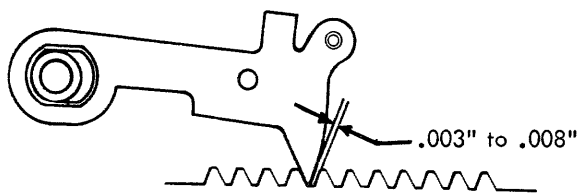
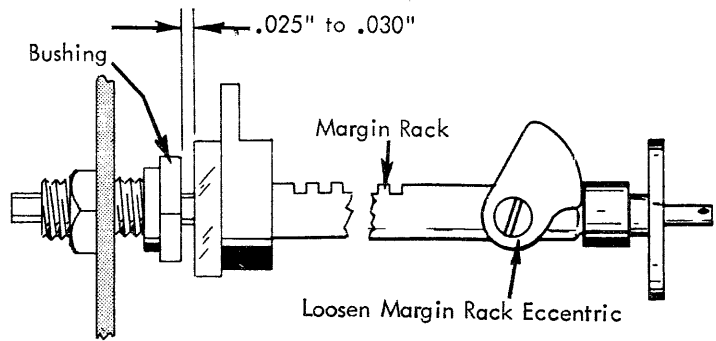

FIGURE 145. Escapement Pawl Check
FIGURE 146. Overbank Adjustment
- a. Early - With the carrier held fully to the left against the margin stop, a clearance of .003" to .008" should exist between the working surfaces of the escapement pawl and the escapement rack tooth (Fig. 145). Adjust the left hand margin rack bushing to obtain this condition (Fig. 146).
The overbank adjustment insures that the escapement pawl will enter the correct escapement rack tooth when the carrier return clutch is unlatched at the left margin. The adjustment may be observed from the top with the platen and deflector removed and the left margin stop positioned toward the middle of the rack. The overbank may also be adjusted by adjusting the margin rack bushing to clear the nylon washer on the margin rack by .025" to .030" with the carrier resting at the left margin. The right hand margin rack eccentric should be loose when making this adjustment (Fig. 146) so that the left margin stop will be against the stop latch on the carrier. The .025" to .030" compensates for the .022" floating action in the escapement pawl. (The correct adjustment for the margin rack eccentric is covered under the Margin Control section.)